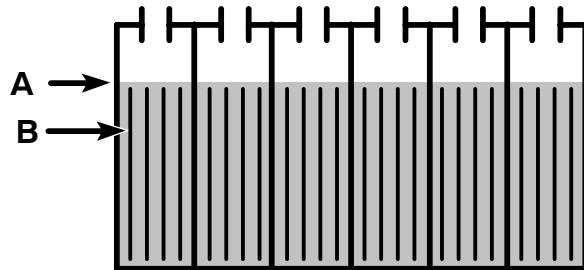

FIG. 28
The electrolyte level (A) should slightly cover the battery plates (B). Add distilled water as needed. **DO NOT OVERFILL**, the fluid may expand and overflow while charging. Replace cell caps before charging (Figure 28).